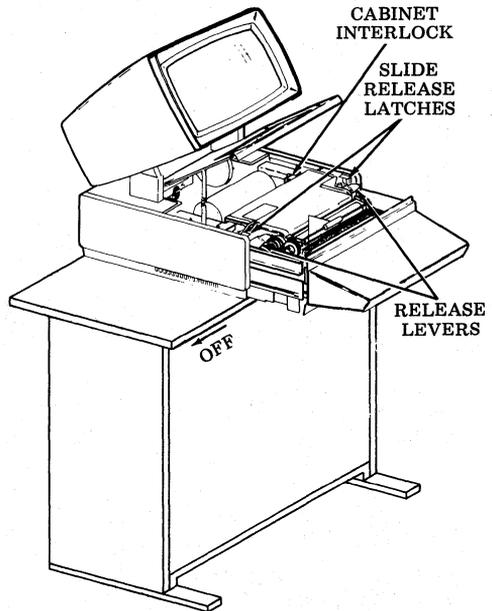

Fig. 3
- (a) Open lid; lift slide release latches (Fig. 3) and slide printer forward.
- (c) Disconnect cabinet interlock (Fig. 3).
- (d) Depress release levers (Fig. 3) and raise printer.